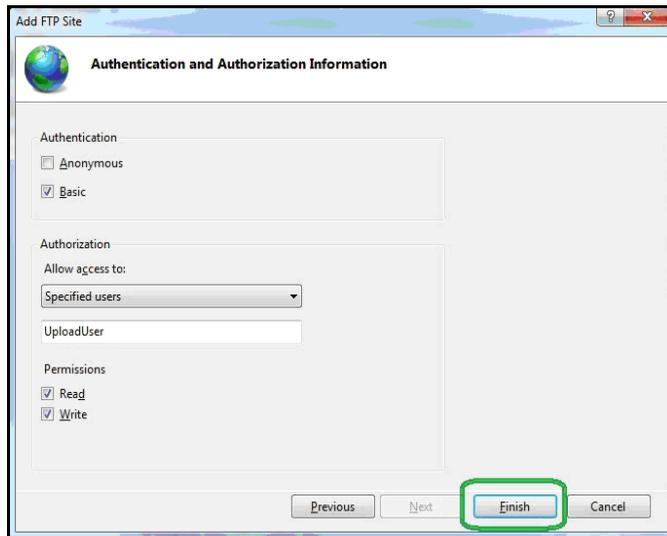

FIGURE 2-35 Add FTP Site - Authentication and Authorization Information
Step 17 Type in your user account name, or the default **UploadUser**, if applicable, as shown in FIGURE 2-35.